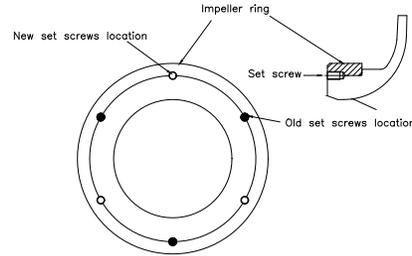

Figure 6-4
- b) Make sure ring fits on impeller are free of nicks or burrs. Heat new ring to 107 °C (225 °F) and install on impeller. Drill and tap new holes in impeller spaced half the circular distance from the previously used holes in the impeller. (See figure 6-4.)